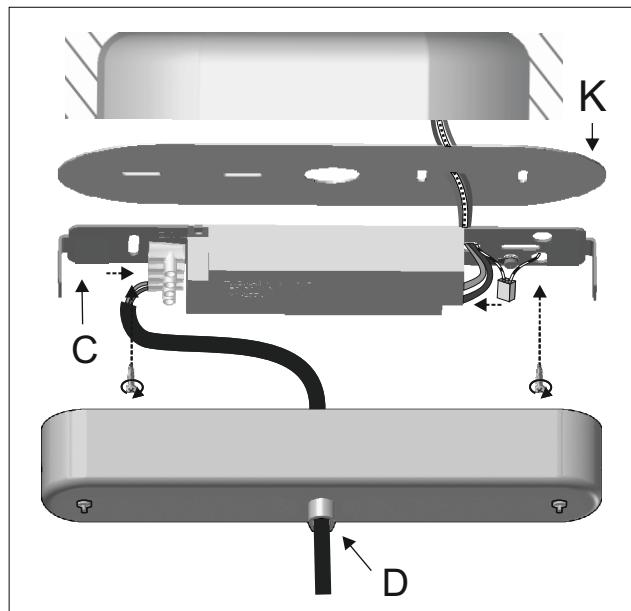

Figure 2
- 2 - Put the decorative canopy [K] on the subjection [C]. Insert the main electrical cable through the subjection [C] the and decorative canopy [K]. Affix the subjection to the ceiling. Insert the electrical cord through the cable ties [D]. Connect the electrical wires. Figure 2.